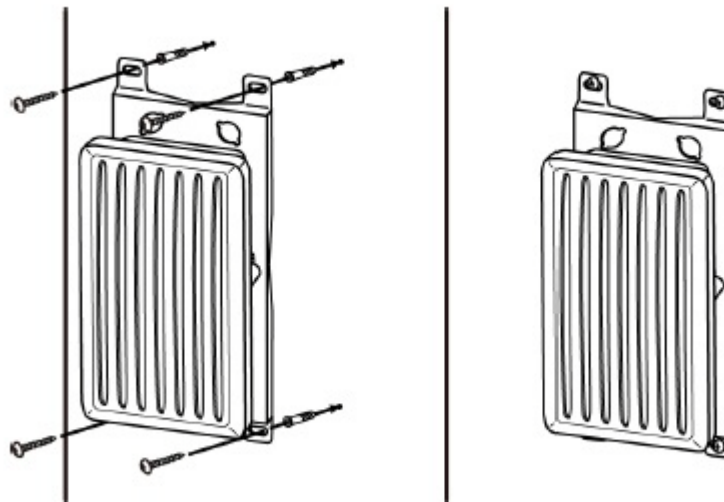

Figure 5-7. Power Module Wall Mount
2. Mount the assembly to the pole using the two stainless steel tie back straps as shown in Figure 5-7.